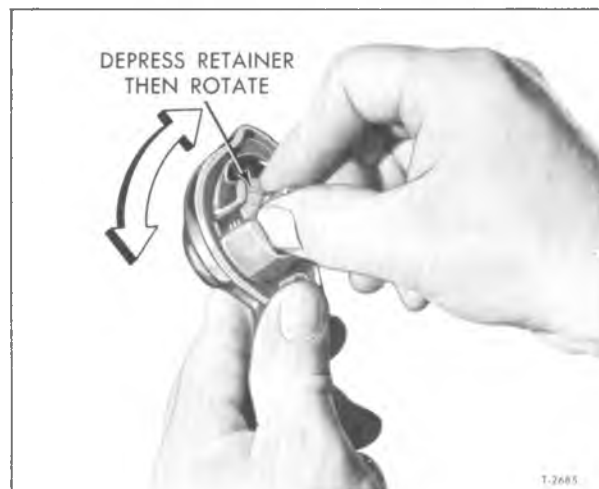

Figure 16—Disengaging Handle Spring Retainer
2. Remove the button shaft retainer by first depressing, then rotating retainer as shown in figure 16. Remove shaft spring and button assembly with O-ring seal from handle.
2. Locate spring over button shaft, then install spring retainer (fig. 16).